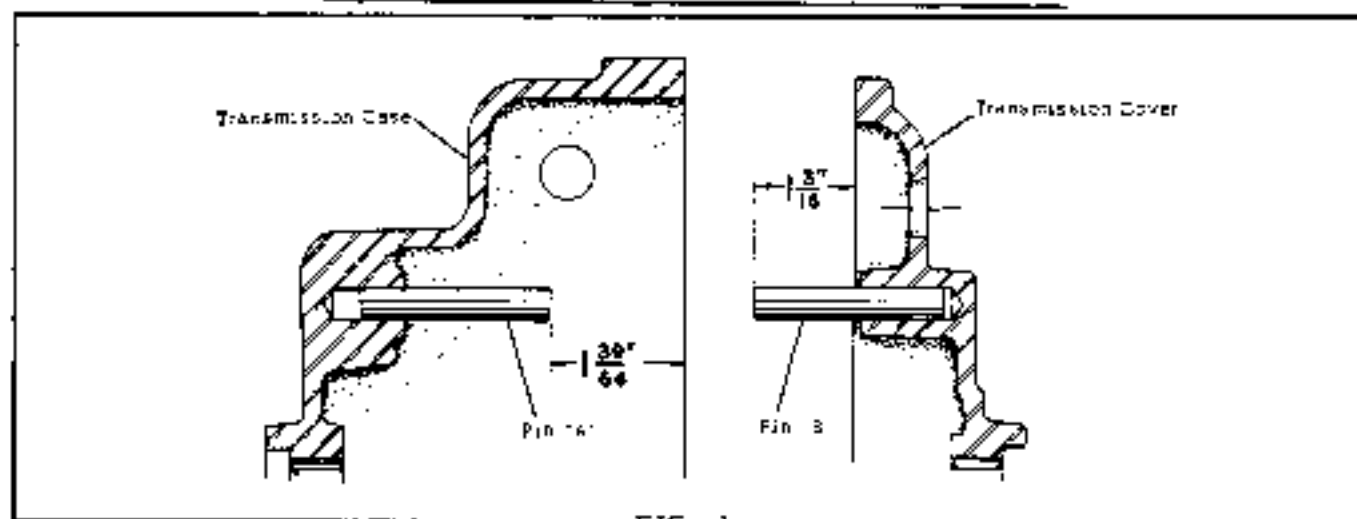

FIG. 1
1. Before beginning assembly, check the 2 roll pins that limit the movement of the shift stem. See Fig. 1. It is imperative that both of these pins be checked for proper height and adjusted if necessary. Note the dimensions shown: pin "A" in the transmission case is set to give a dimension of  $1\text{-}39/64$ " from the end of the pin to the face of transmission case, and pin "B" in the transmission cover is set to give a dimension of  $1\text{-}3/16$ " from the end of the pin to the face of cover. When replacing pins, the groove of the pin should face the top of the transmission case.